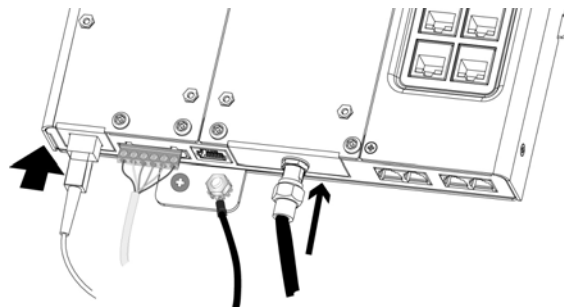

Figure 25. Connecting the Coax cable
- I. Connect the coax cable to the HPNA card, as shown in Figure 25